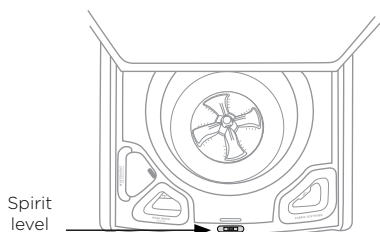

Fig.1 Levelling side to side
- ① Move the washer to its final position using the top corners to manoeuvre the product into place (do not push on the centre front of the washer). We recommend a minimum clearance of 20 mm each side and 40 mm at the rear of the washer.
- ② Open the lid, place the spirit level at the centre front of the top deck forward of the lid lock slot. Level the washer from side to side by winding up or down the front feet (Fig.1).